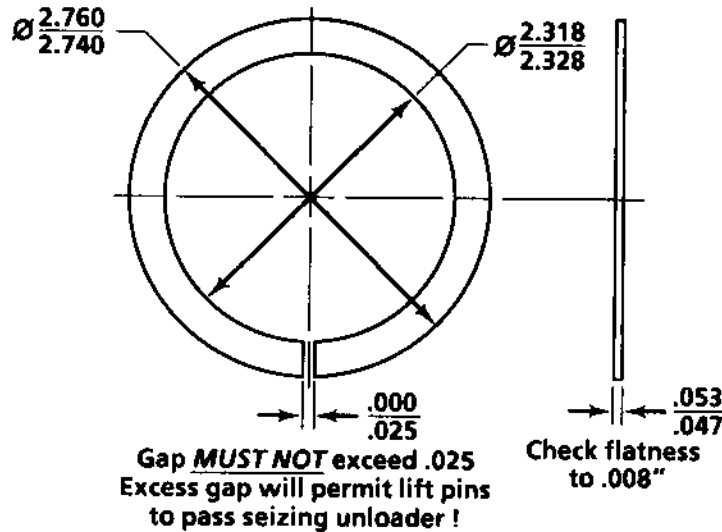

Figure 37 — Checking Take Up Ring End Gap and Flatness
6. Examine the take-up rings, lift pins and spring (18, 19, and 20, Figure 3). Replace the springs and/or lift pins if they are less than the length listed in "Recommended Wear Limits and Tolerances" at the end of this section. Check take up ring end gap (spec. is .000 to .025 in.). The gap must not exceed .025 in.; otherwise the lift pin can work through the gap, seizing the unloader (see Figure 37).